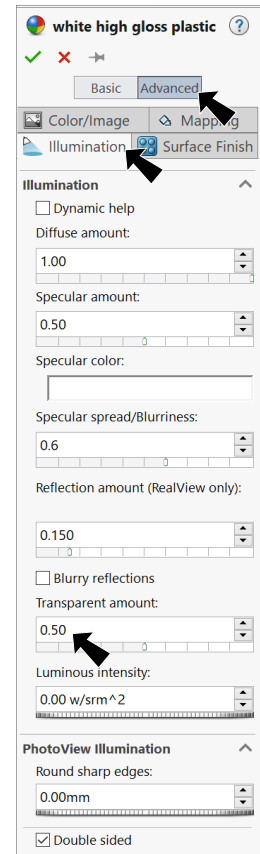

Fig. 26
Step 4. In the Appearances Property Manager, click **Advanced** button at top of Property Manager, Fig. 26 click **Illumination tab**  click **Transparency amount .5** click OK .